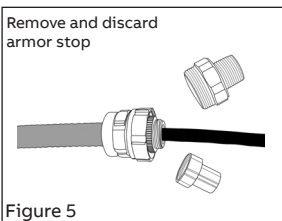

Figure 5
- Feed cable through gland nut opening and push until cable armor hits Armor Stop (Figure 5).
- Disassemble hub from body sub-assembly by loosening union. Unscrew sealing chamber from body sub-assembly (Figure 5).